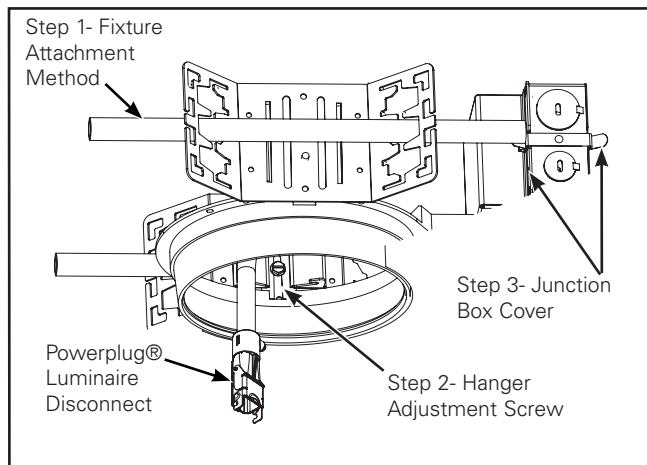

Figure 1.
1. Install fixture into ceiling cavity using 1/2" electrical conduit. Use 3/4" channel, 1-1/2" channel, 1/8" x 1/2" bar stock, or T-bar fasteners as mounting rails (furnished by others) by inserting the through hanger brackets at both sides. (Figure 1.)